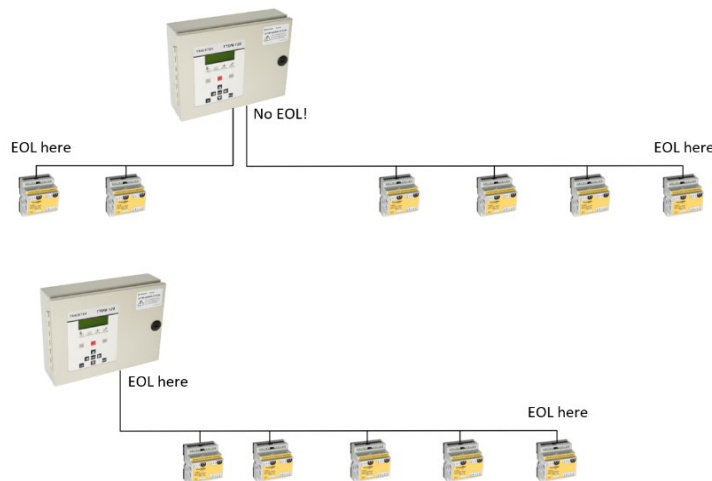

Fig.5
- b. Generally, the master panel is at the end of the network so the starting resistor would be within it. However, if the master is not at one end, it should not have an EOL resistor enabled/fitted. (Fig.5)